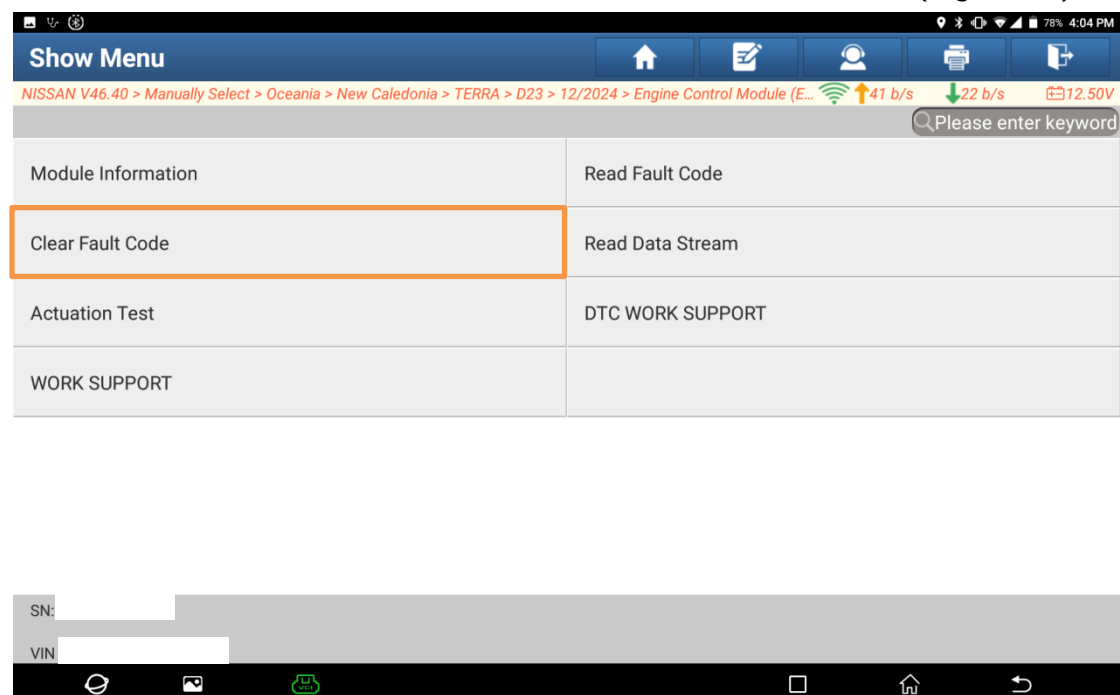

Figure 17
12. Turn off the vehicle ignition and engine, disconnect the diagnostic tool, and repair any malfunctioning cylinders based on the test results. After repairs, reconnect the diagnostic tool, set up the test environment, and run the [Power Balance] function again to verify that the power output of each engine cylinder has returned to normal. If all cylinders are functioning normally, return to the ECM menu interface, choose [Clear Fault Code], click "Yes", and then click "OK" to clear the DTC information (Figure 17).